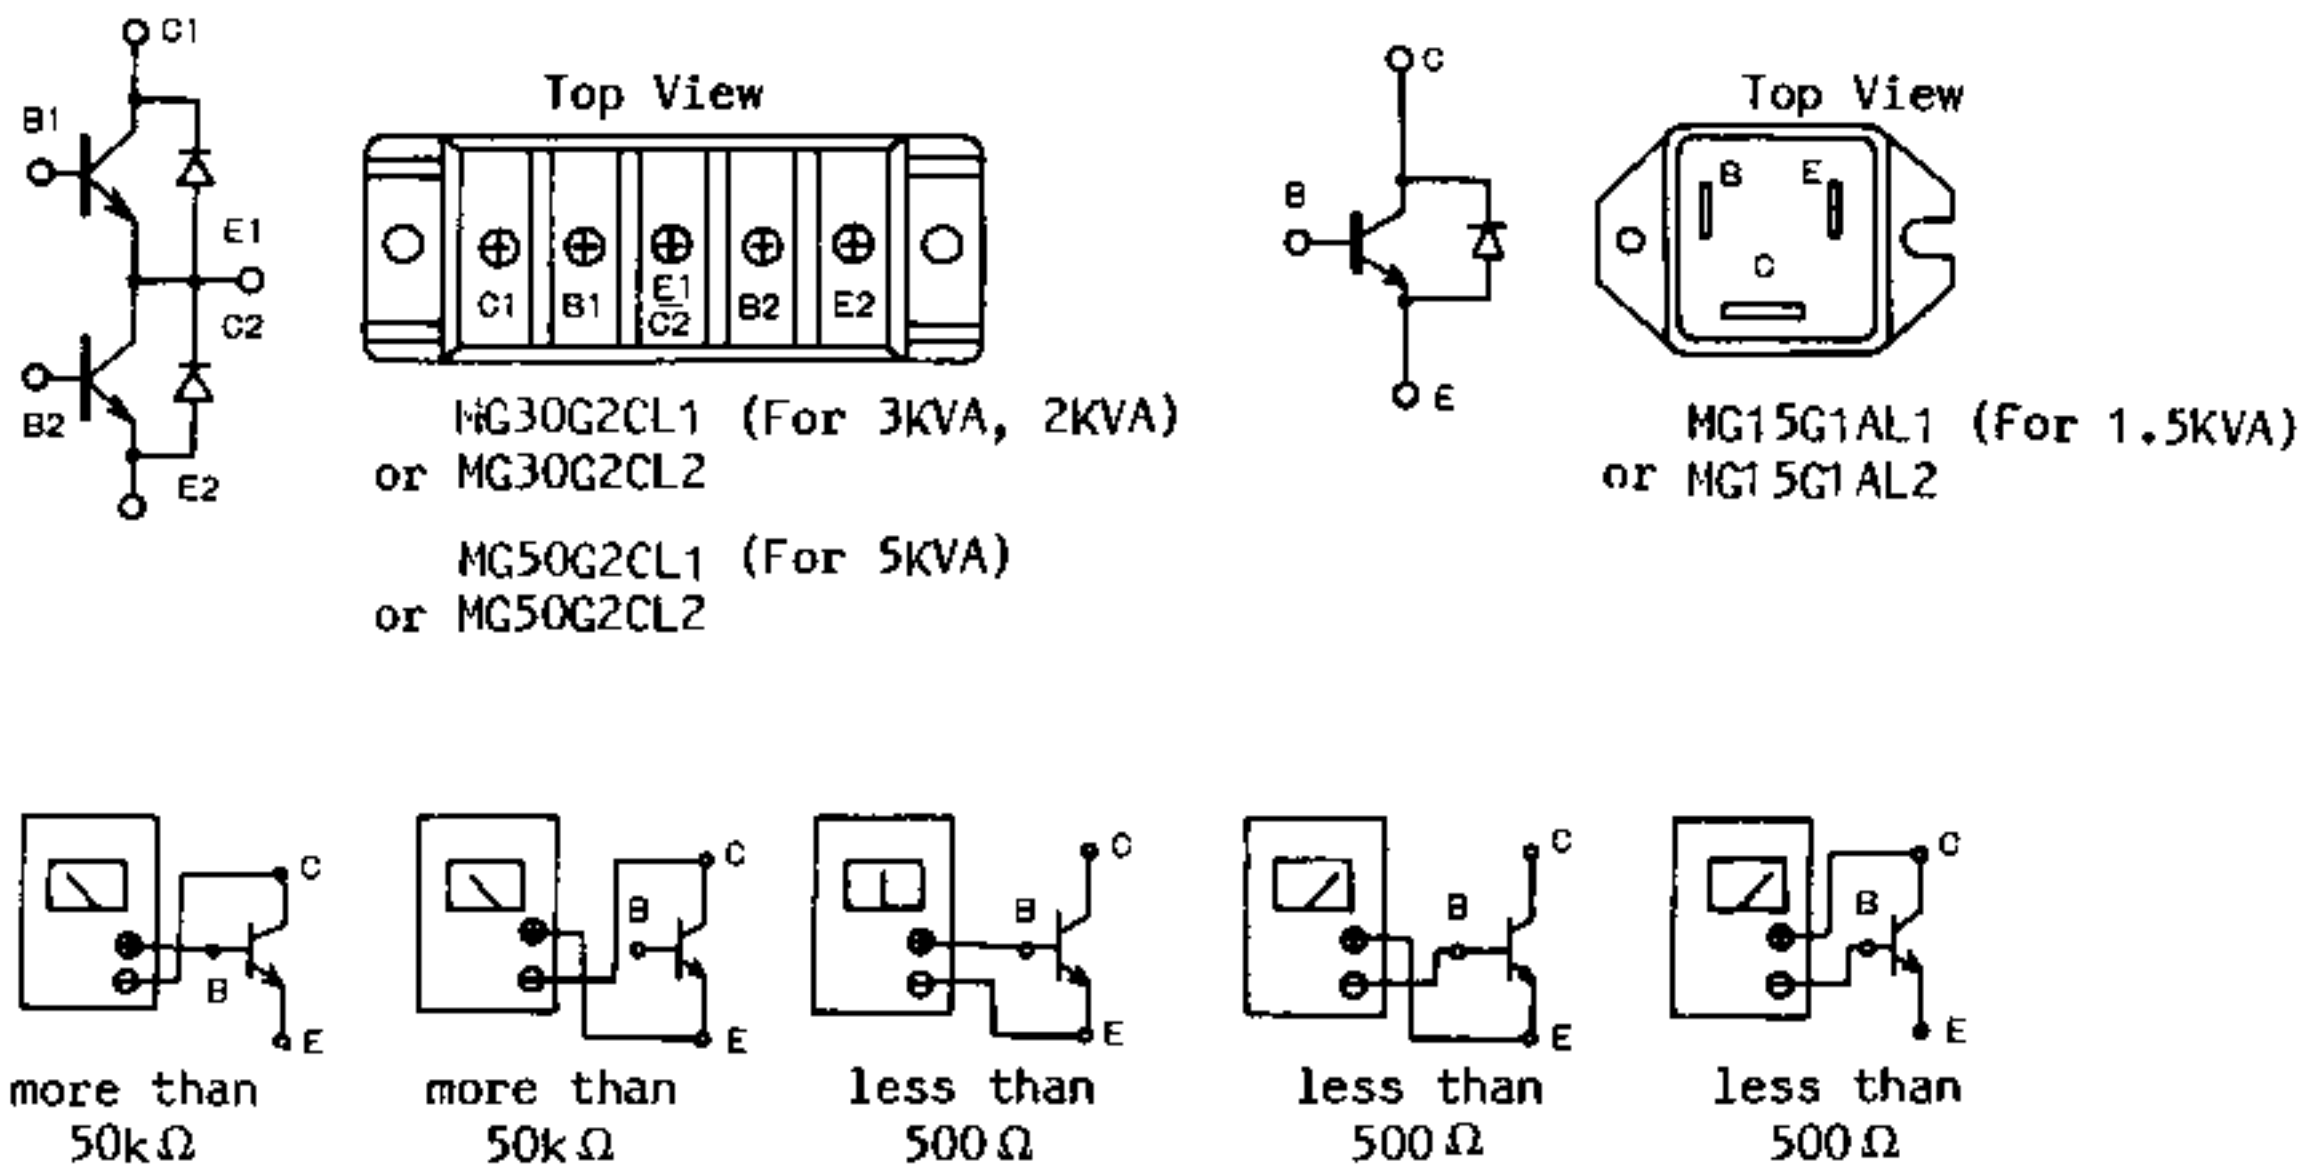

Figure 11 G-TR Testing
- (2) Figure 11 shows the check procedure testing the G-TR (Giant transistor). (use Tester)